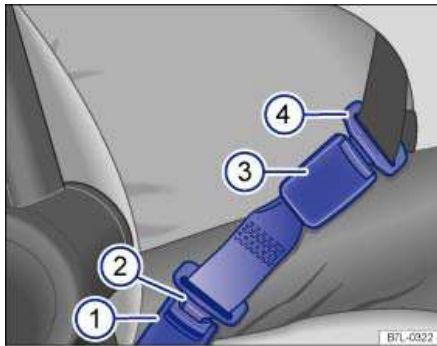

Fig. 65 A safety belt extender properly attached to the factory-installed safety belt.
Key to fig. 65:
- Insert the buckle tongue on the safety belt extender ⇒ fig. 65 \(2\) into the vehicle belt buckle for the seat where the safety belt extender is being used \(1\).